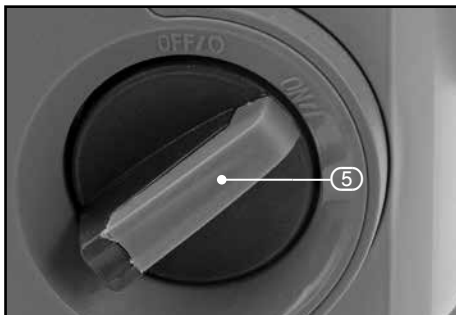

FIG.20
10.2 SWITCHING ON – FIGS. 20 – 23